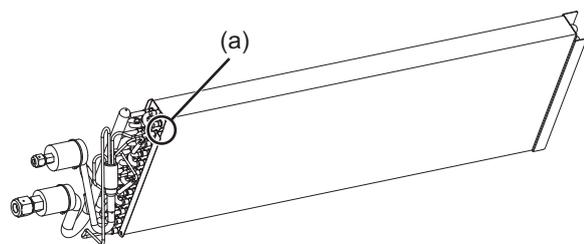
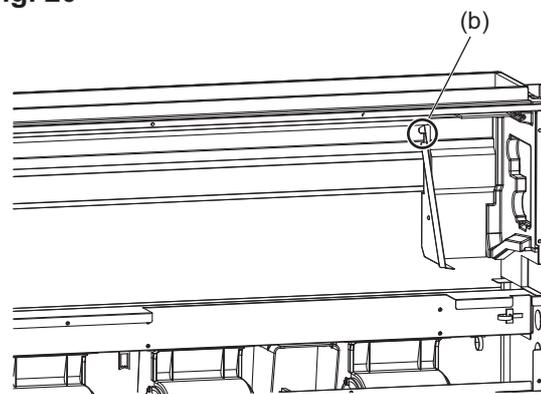

Fig. 20
Fig. 21
- In order to attach and fix the heat exchanger, insert the hook (a) on the heat exchanger (Fig. 20) to (b) (Fig. 21).